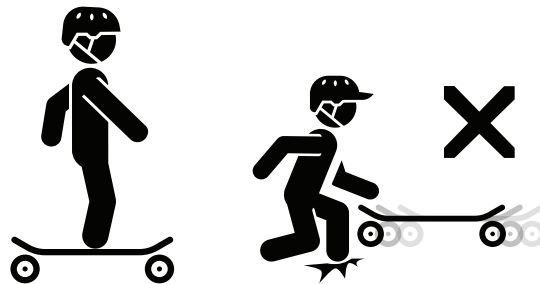

Fig. 3
- STEP 1.** Step one foot on the front sensor area (1). Then step the other foot on the back sensor area to release the braking system. (The dominant foot should be on the rear sensor.)
- STEP 3.** Lean forward slightly and kick your rear foot on the skateboard to accelerate (2), until it reaches the top speed 9.3mph (15km/h).
- STEP 4.** To slow down, lean back and kick your front foot on the skateboard to help you slow down (number 1 icon). Stand straight on the skateboard to come to a complete stop (Fig. 3).